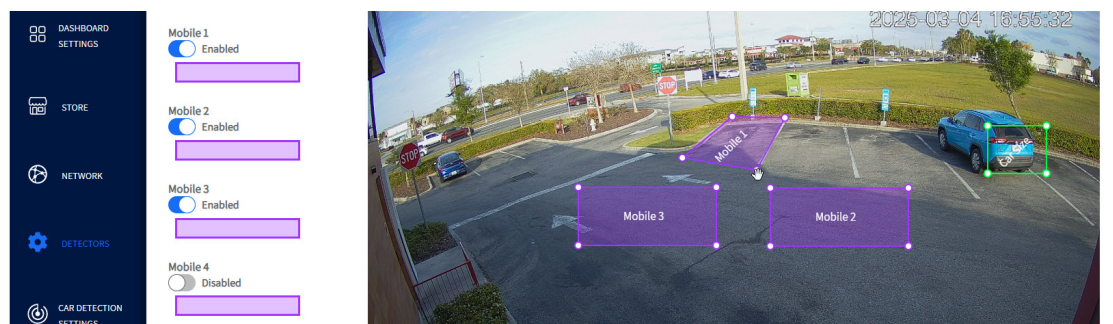

Fig. 24
- The polygon has four adjustable vertices, one on each corner. After moving the box into a parking space grab any corner vertex and adjust the polygon to match the parking space. See Mobile 1 in Fig. 24.